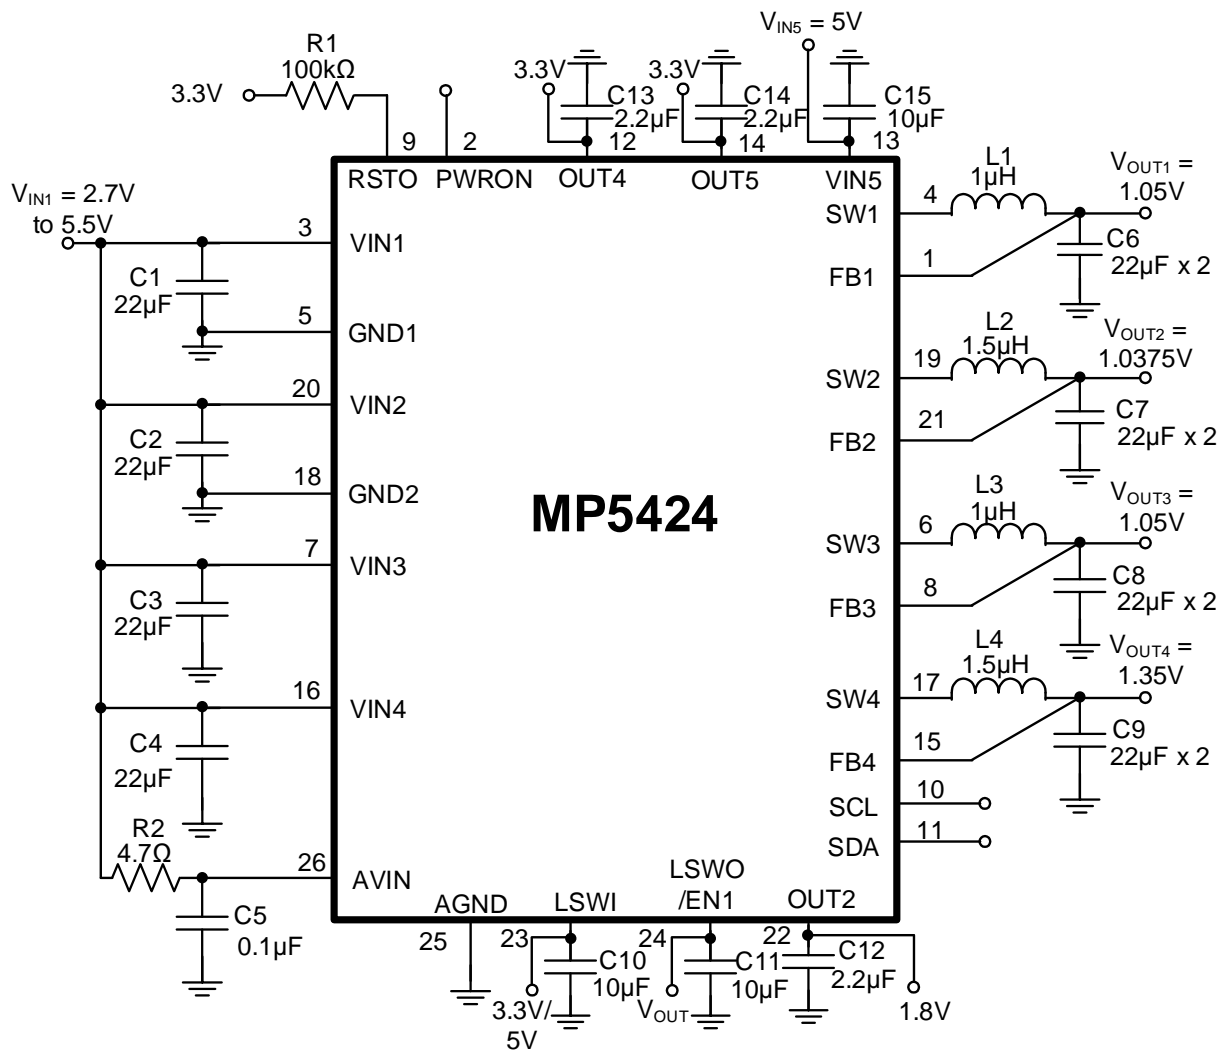

Figure 18: Typical Application Circuit ⁽²¹⁾ ⁽²²⁾
- 19) The recommended PCB layout is based on Figure 18 on page 40.